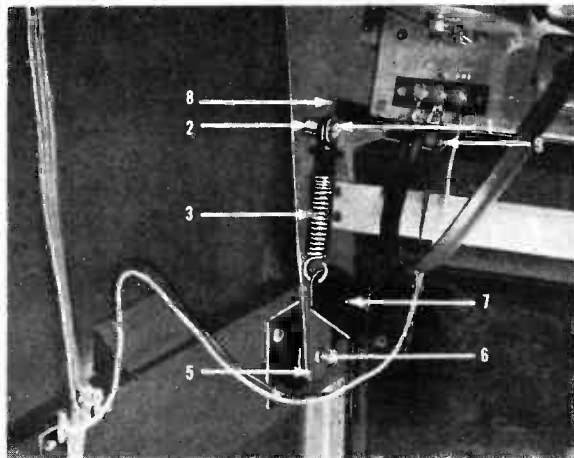

Fig. 5. Receiver Tilt-Out Mounting
Remove the screw and washer (#1 in figure 5) from both tilt-out spring studs (2), one on each side of the tilt-out assembly. Slip the tilt-out springs (3) off their respective studs. Unscrew the ends of the tie-bar (4). The tie-bar then hangs free on the copper braid used to bond it to the chassis.
Make sure the rubber bumpers (#9, Fig. 5) and rubber strips (#8) are in place.
Replace the tie-bar (#4). Replace the tilt-out springs (#3. See figure 5). Reconnect the cabinet wiring and cables to the receiver chassis. Check to see that the rubber bumper (#9) and rubber strips (#8) are in place. The assembly should now appear as shown in figure 5.